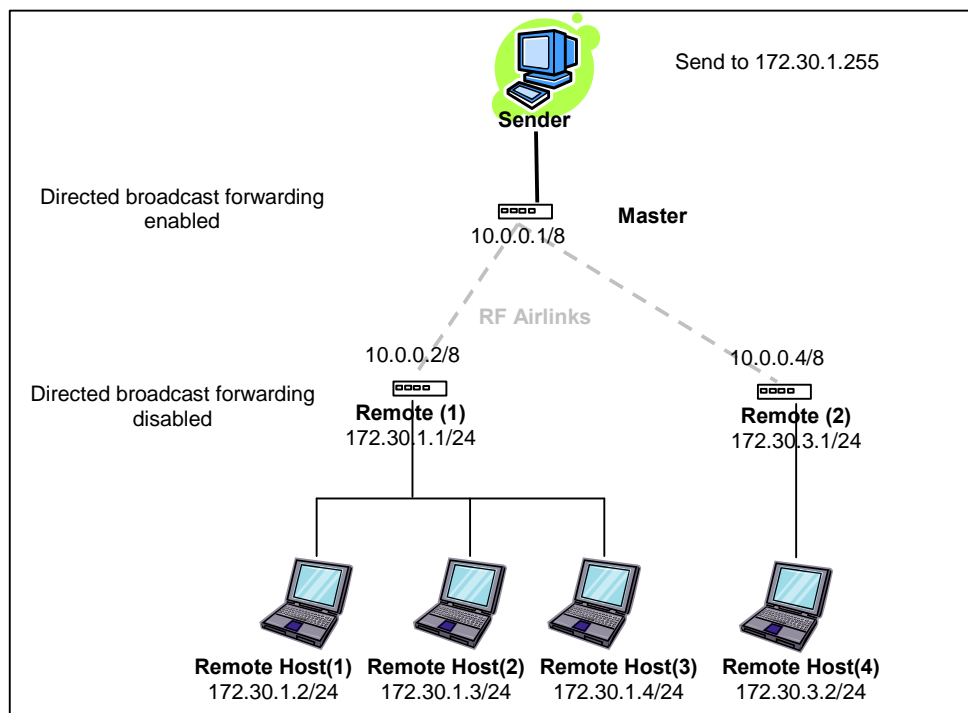

Figure 55 - Example-Directed broadcast forwarding disabled
In the example in Figure 55, directed broadcast forwarding is enabled on the **Master** unit and disabled on the **Remote (1)** unit. If **Sender** sends a packet to destination address 172.30.1.255, the packet would be discarded by **Remote (1)**, it would not reach **Remote Host (1)**, **Remote Host (2)**, and **Remote Host (3)**.